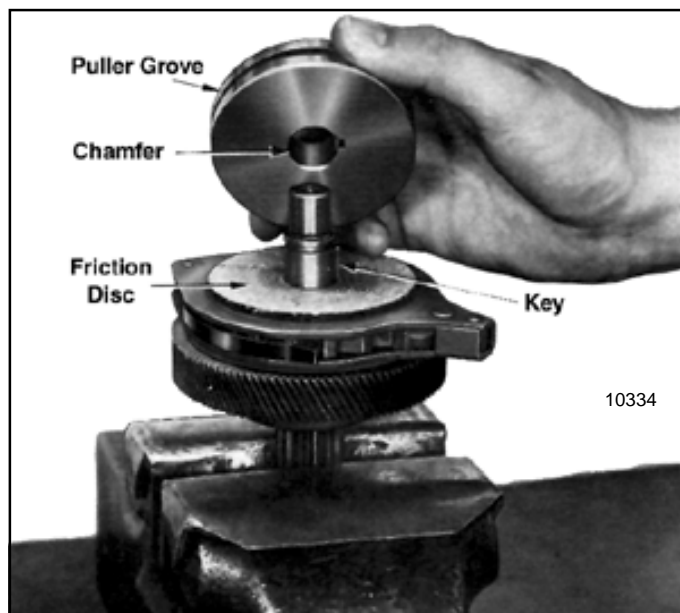
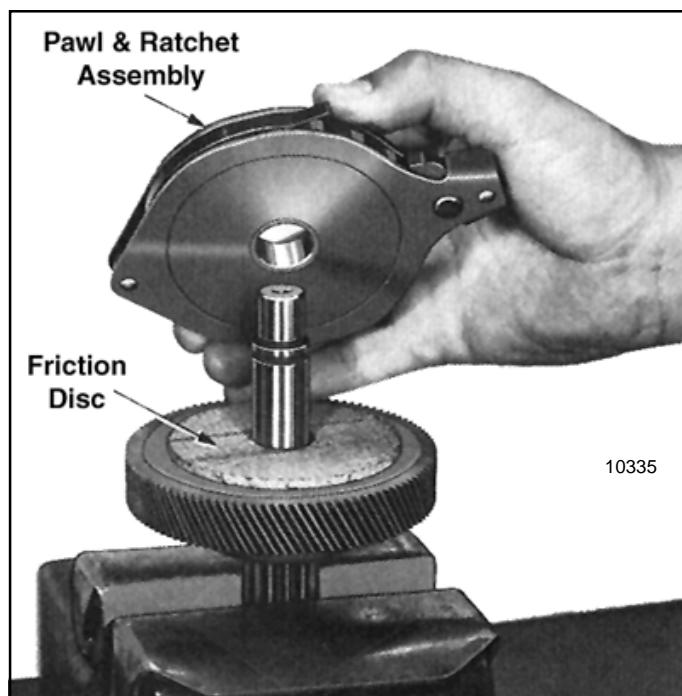

Figure 7-22. View Showing Load Brake Flange Removed
Figure 7-23. Removing Pawl and Ratchet Assembly from Load Brake Shaft
(2) Using a puller tool, remove brake flange from shaft. A groove is provided around outer diameter for this purpose. See figure 7-22. Remove key from shaft and lift off 2 friction discs, and the pawl and ratchet assembly (fig. 7-23).
(4) When installing pawl and ratchet assembly on load brake shaft, be certain that teeth on ratchet face are in the same direction as shown in fig. 7-23. The ratchet assembly should rotate freely when turned counterclockwise and the pawl should engage ratchet teeth when unit is turned clockwise.
(5) When installing brake flange position it with chamfer facing friction disc, figure 7-22.